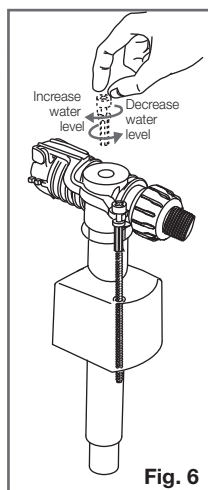

Fig. 6
- 6- Turn on water mains. Open the Cistern Stop Valve and check the operation of the mechanisms and valve. Adjust water level to the water level mark inside the cistern by simply turning the float arm adjustment screw in a clockwise or anti clockwise direction as detailed in **Fig. 6**.
- 7- Adjust water level to the water level mark inside the cistern by simply turning the float arm screw in a clockwise or anti-clockwise direction as detailed in **Fig. 6**.